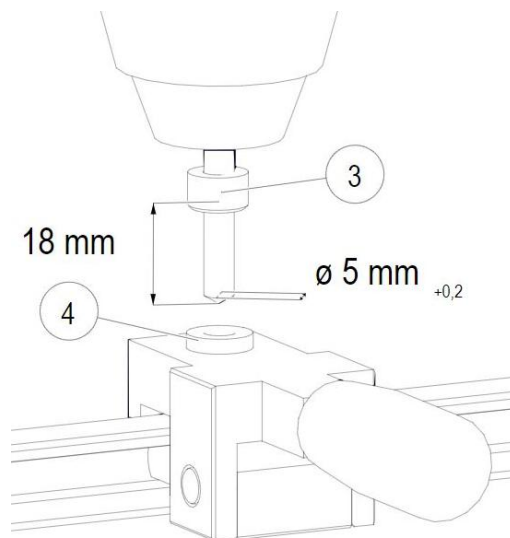

Fig. 71: Hole for anchor point drilled
- Place the adjusting ring (3) on the drill (drilling depth: **18 mm**) and drill through the drill bushing (4) until the adjusting ring is in contact with the bushing (see Fig. 71).